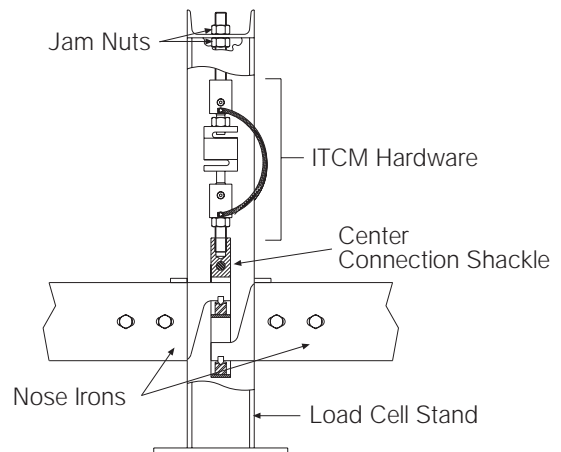

Figure 1: Load Cell Assembly
2. Assemble the load cell, ITCM hardware, and center connection shackle to support the nose irons (see Figure 1). Temporarily secure that assembly with the top and bottom jam nuts on the top plate of the load cell stand.